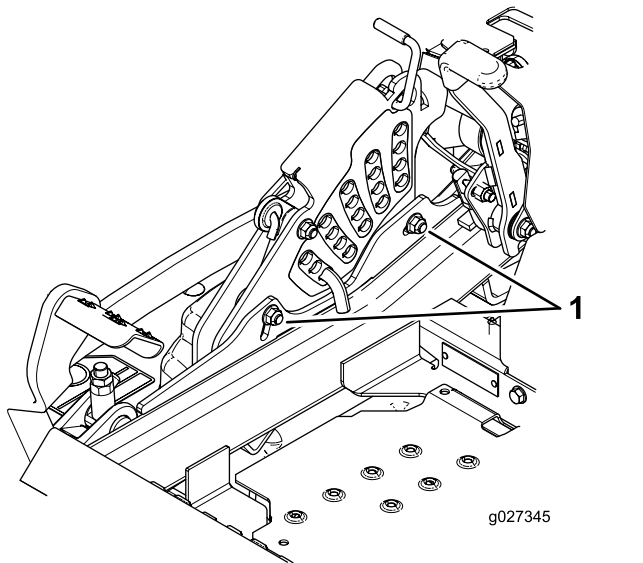

Figure 102
11. To adjust the single-point system, loosen the 2 bolts at the bottom of the height-of-cut plate (Figure 102).
13. Tighten the 2 bolts at the bottom of the height-of-cut plate (Figure 102).